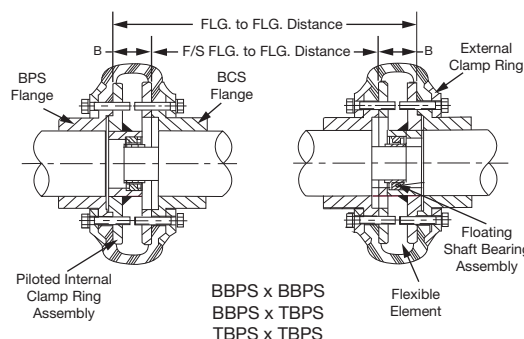

Figure 7 - Floating Shaft Coupling
- Referring to Figure 7 and Table 1, observe the "B" dimension for the coupling size being installed. Mount and position the flanges on the shafts so that dimension "B" is achieved when the shafts are in their final position. Where flanges contain set screws, tighten to values listed in Table 2.
- Remove any anti-rust lubricants or oil from the grooved side of the clamp rings. Assemble internal and external clamp rings to floating shaft flanges and snug up clamp ring screws. Slip internal piloted clamp rings onto the turned down portion of floating shaft. Hub projection on clamp ring should be toward floating shaft as shown in Figure 7.